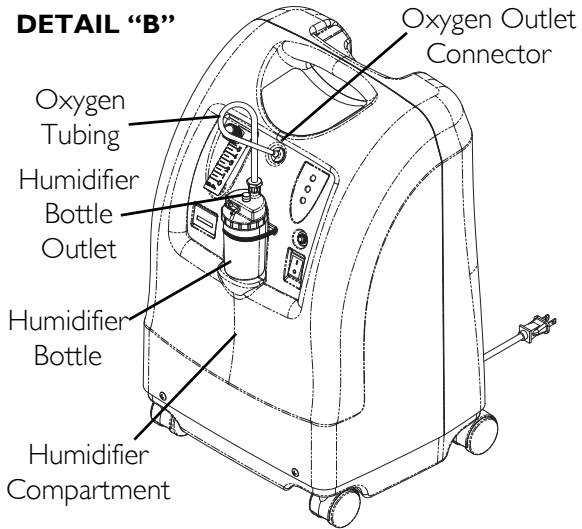

FIGURE 5.3 Humidifier Compartment
NOTE: For this procedure, refer to FIGURE 5.1, FIGURE 5.2 on page 16, FIGURE 5.3 on page 17.
5. Attach the humidifier bottle adapter to the humidifier bottle by turning the wing nut on the humidifier bottle counterclockwise until it is securely fastened. See Detail "A" in FIGURE 5.3.
6. Place the humidifier bottle/adapter assembly in the humidifier compartment on the concentrator. See Detail "B" in FIGURE 5.3.
7. Attach oxygen tubing from the humidifier bottle/adapter assembly to oxygen outlet connector on the concentrator. See Detail "B" in FIGURE 5.3.
8. Attach the cannula/patient supply tubing to the humidifier bottle outlet. See Detail "B" in FIGURE 5.3.